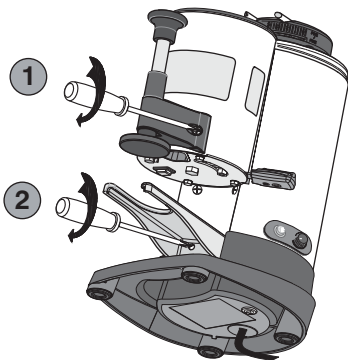

Fig. 11
- 5 Correctly tighten the retaining screws of both the telescopic press (1, Fig. 11) and the new fork (2, Fig. 11).